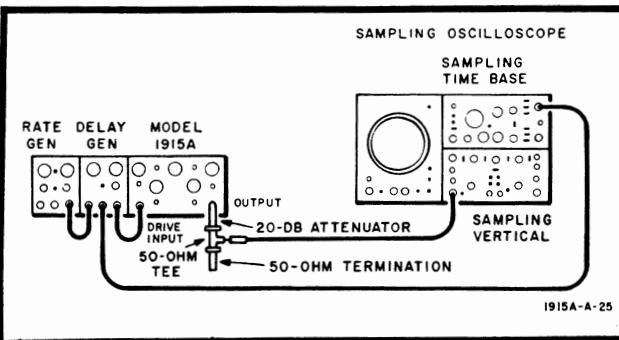

Figure 5-6. Sampling Oscilloscope Test Setup
- Connect equipment as shown in Figure 5-6.